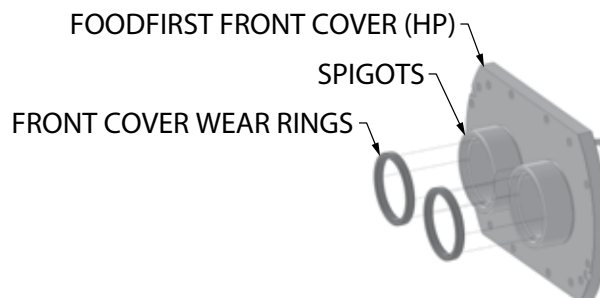

fig. 4.5.5
##### 4.5.2.4.2 FoodFirst Front Cover Wear Ring Removal- High Pressure (HP) Cover (ref. fig. 4.5.5)